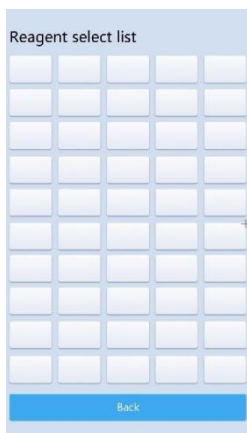

Figure 19 List of Alternative Reagents
6.1 Add Reagent : add the name of the reagent used in the staining process for the system. Click this button to call out the "List of Alternative Reagents" as shown in Figure 19.